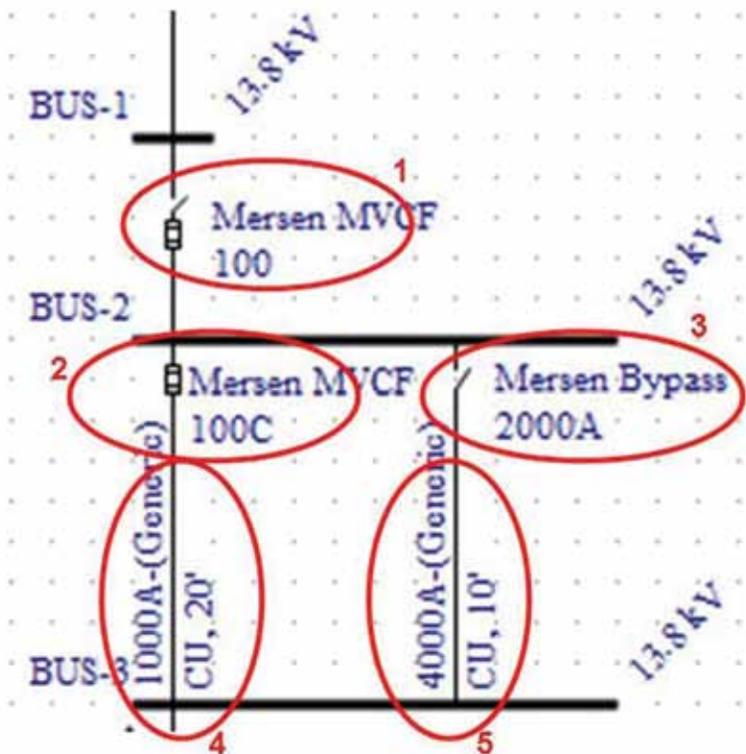

Figure 3. Modeling the MVCF.
Step 1. Model the MVCF with 5 discrete components. There is a main fuse (1 as shown in Figure 3), a controlled fuse (2) and a bypass switch (3). Since the fuse and bypass switch are zero ohms in the program, some impedance needs to be added in each leg. See (4) and (5) in the figure.
Step 2. Double click the main fuse (1) and select from the dialog as shown to the right.
Step 3. Double click the controlled fuse (2) and select from the dialog box. As can be seen, the controlled fuse is shown as a separate fuse without a switch. Click on the 'Fuse Only' check box under One-Line Graphics to properly display this fuse.